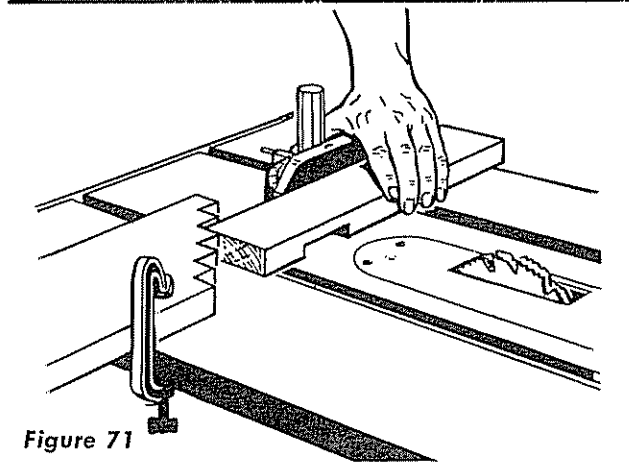

Figure 71
5. When a groove wider than the dado head is required, make two or more passes. The best method is to use a notched stop block to position each successive cut. (See figure 71.) The block is fastened to edge of table where it can be used to position work before starting the cut, but in a position that will not permit contact with work during the cutting operation. Space the cuts so they overlap slightly.